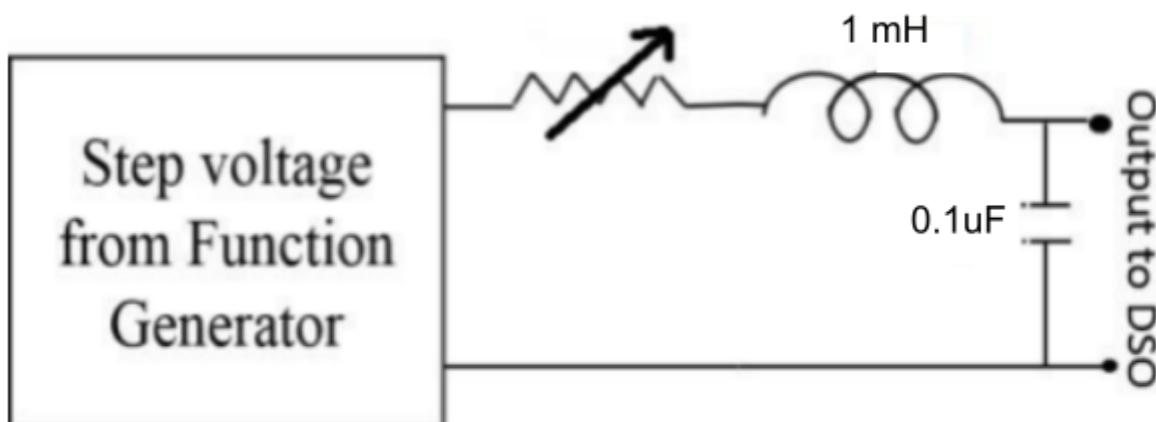

Fig. 4.1
1. Draw circuit as shown in Fig 4.1 on LTspice schematic window. Set $C = 0.1\mu\text{F}$, $R = \{R\}$ and $L = 1\text{mH}$ with internal series resistance 3.5 ohm .
1. Connect circuit on breadboard as shown in Fig 4.1.